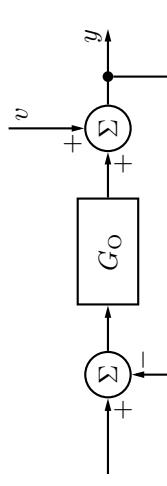
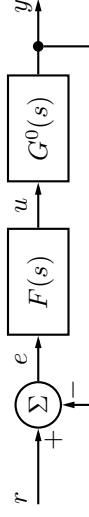

Figure 6.3a
Figure 6.3b
6.3 Figure 6.3a shows a Nyquist diagram for the loop gain G_o . Show in a figure for what frequencies (that is, for what part of the Nyquist curve above) additive disturbances on the output are amplified in the sense that the output amplitude of the control system in Figure 6.3b is larger than the disturbance amplitude.